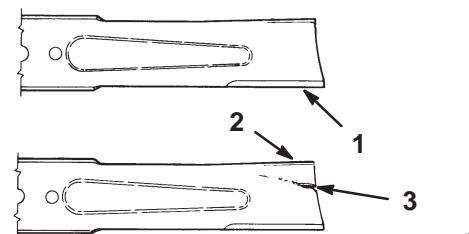

Figure 18
1. Inspect the cutting edges (Fig. 18). If the edges are not sharp or have nicks, remove and sharpen the blades; refer to Sharpening the Blades, page 23.
2. Inspect the blades, especially the curved area (Fig. 18). If you notice any damage, wear, or a slot forming in this area (item 3 in Fig. 18), immediately install a new blade.